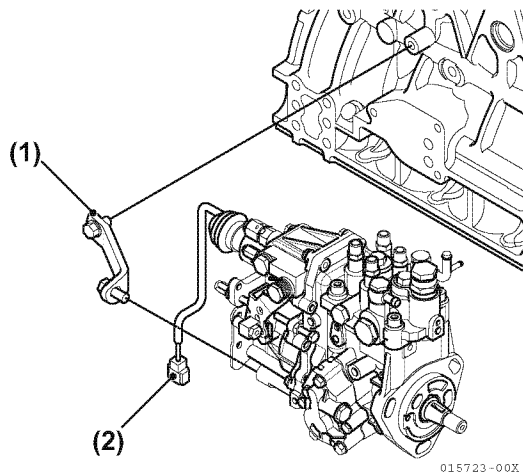

Figure 6-29
11. Separate the stop solenoid wiring connector (**Figure 6-29, (2)**).
12. Remove the rear fuel injection pump bracket (Figure 6-29, (1)) from the fuel injection pump.